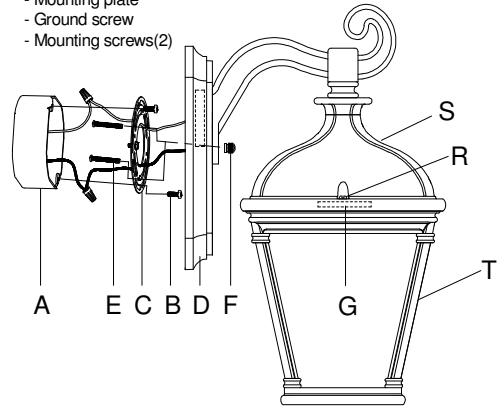

Fig. 2
## CONNECTING THE WIRES (Fig. 2)
5. Connect the electrical wires as shown in Fig.2 making sure that all wire connectors are secured. If your outlet box has a ground wire (green or bare copper), connect the fixture's ground wire to it. Otherwise, connect the fixture's ground wire directly to the circular strap using the green screw provided.